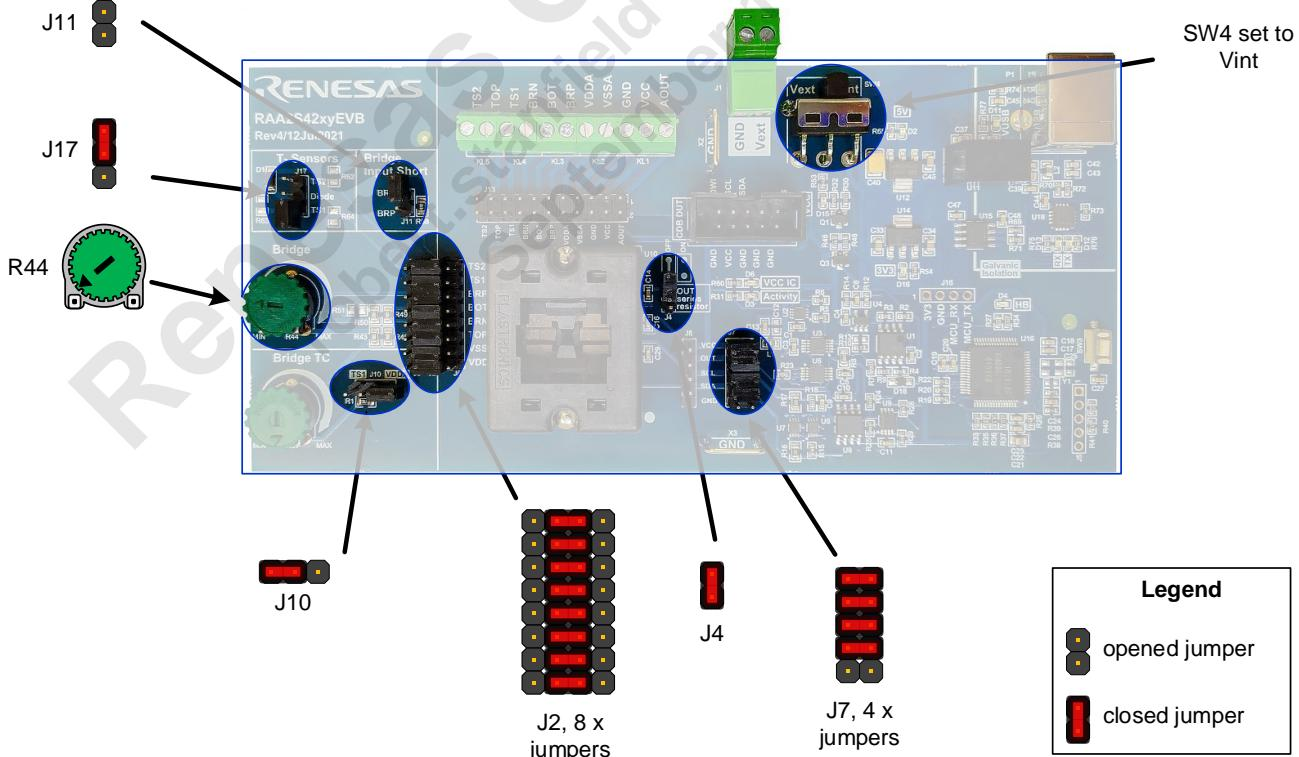

Figure 3. Block Diagram or Labeled Board Image
2. Set the jumpers as shown on Figure 3 and Table 1